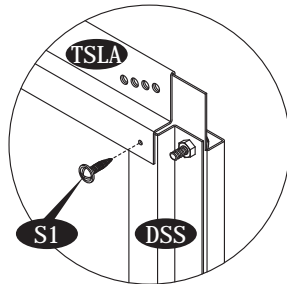
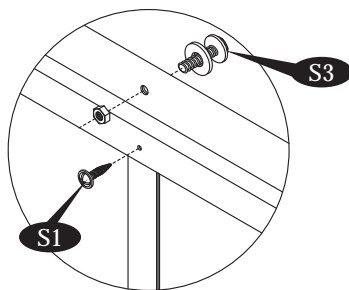

Fig.2
Fig.3
9. Assemble the door panel strip (TSLA) with door panel. Make sure the door panel top edge to be inserted into the (TSLA). See fig.1. Secure the (TSLA) with (DSS) and door panel with (S1) screws. See fig. 2. Use (S3) bolt and nut with washers to secure with door panel at the middle of (TSLA). See fig. 3.